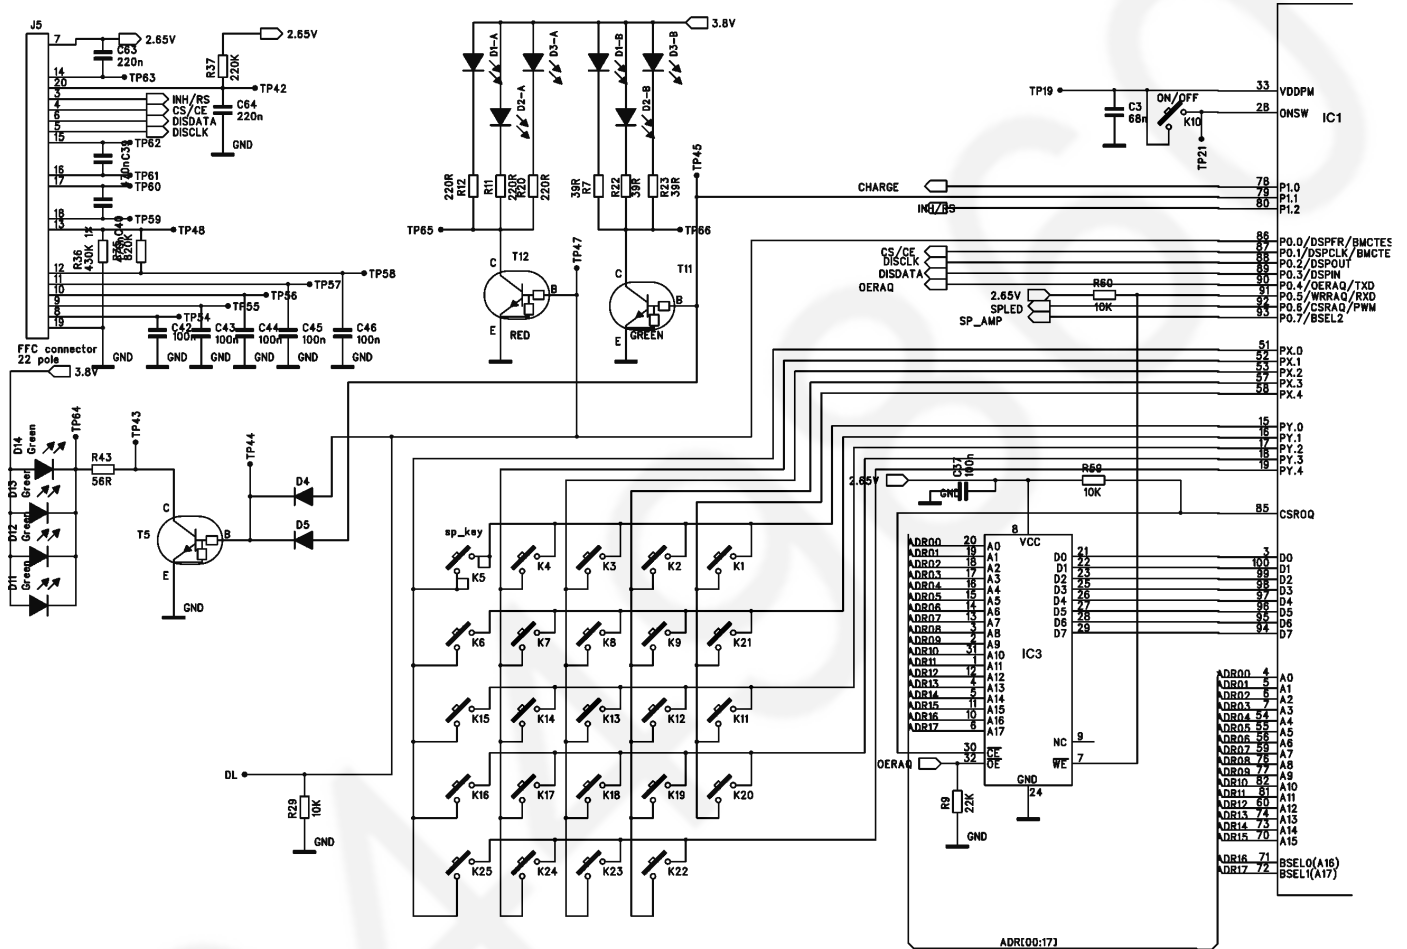

Fig. 26
7.1.9. KEYBOARD (SEE Fig. 26)
7.1.10. LCD DISPLAY, AND DISPLAY DRIVER (SEE Fig. 26)